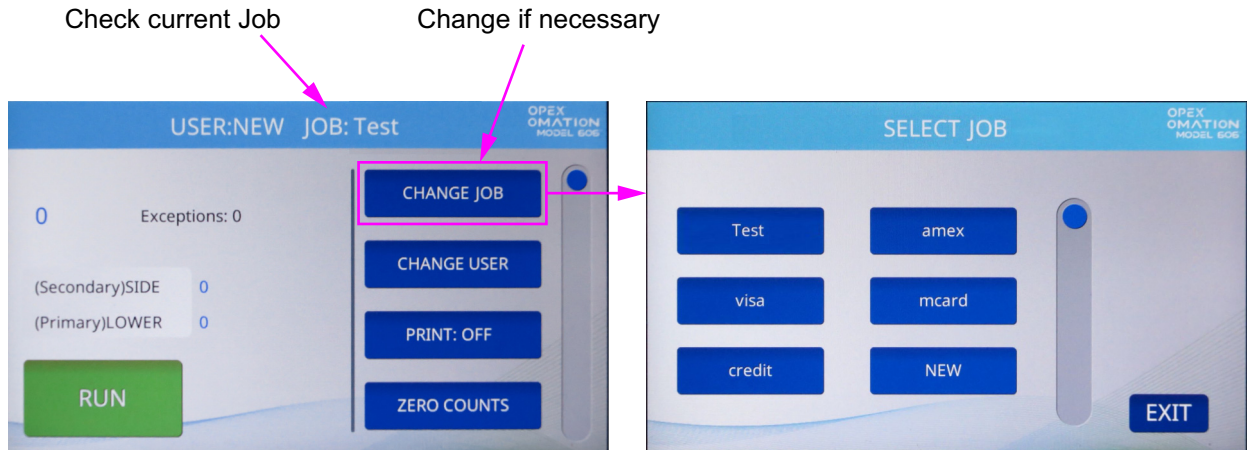

Figure 5-8: Check the current Job
1. From the Main screen, check the currently selected Job (Figure 5-8).